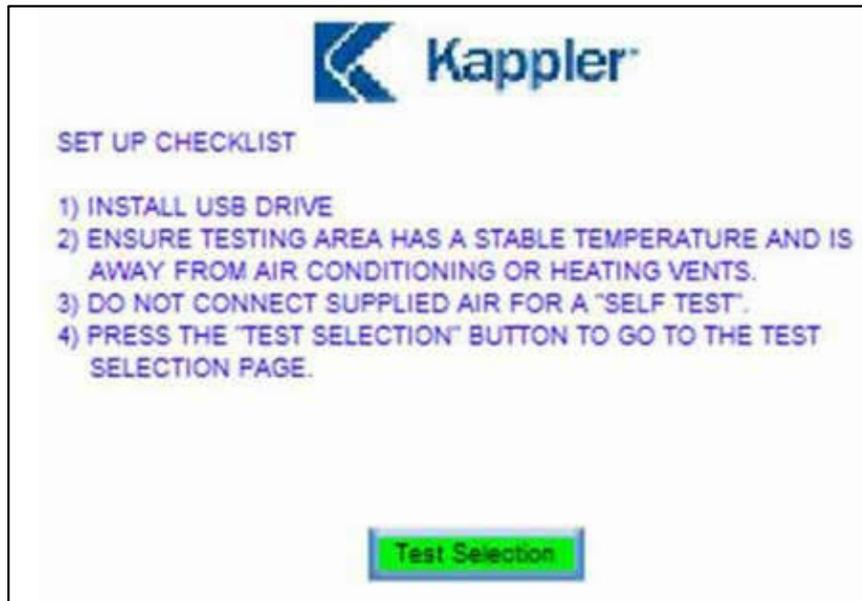

Figure 3: Set Up Page
2. Locate the power supply cord (Part E) and insert into the AC receptacle (L) on the test kit face. Connect the power supply cord to a 110 volt power source. Use of this kit outside the United States will require special adapters and/or converters.
5. Turn test kit on with power switch (L). Wait until the test kit program has loaded and the Touch Screen (J) shows the Set-up Page (Figure 3). Insert USB drive into the USB port (K). Note: It will take a few moments for the drive to connect with the software.
5. Turn on the test kit with power switch (L) and wait until the test kit program has loaded and the Touch Screen (J) shows the Set-up Page (Figure 3). Insert USB drive into USB port (K). Note: It will take a few moments for the USB drive to connect with the software.